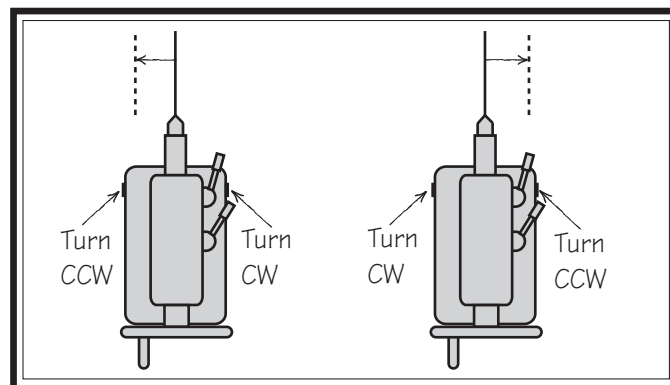

Figure 41. Set screw adjustment in relation to tailstock movement.
2. Rotate the adjustment set screws in opposite directions for the desired offset (see the illustration in **Figure 41**).